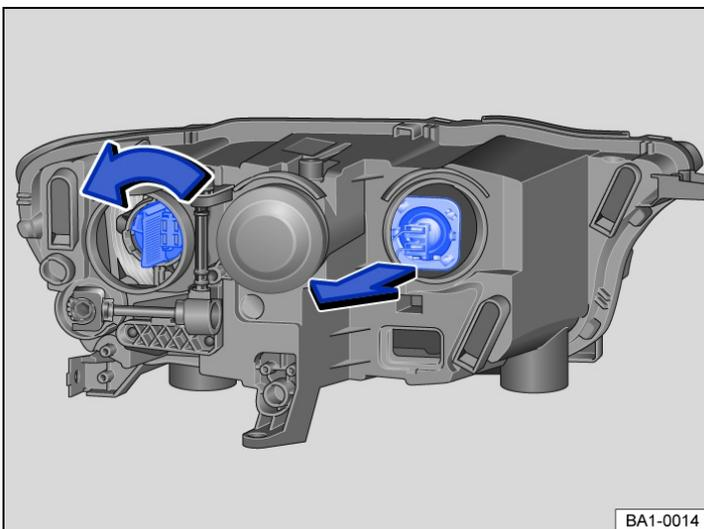

Fig. 2 In the engine compartment: changing bulbs in the left headlight.
4. Dipped beam: Turn the bulb holder anticlockwise as far as it will go → Fig. 2 and carefully pull it out to the rear together with the bulb.
Main beam: Use the base to push the bulb upwards until it releases. Pull out the bulb to the rear → Fig. 2.